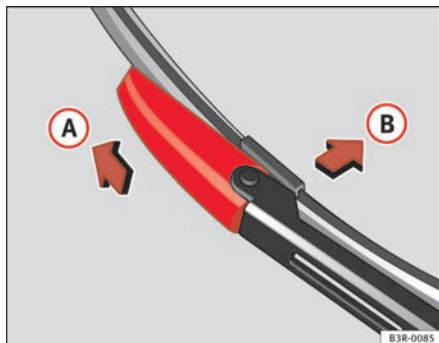

Fig. 169 Removing the wiper blade
- Slide the retainer catch on the wiper blade in the direction indicated ⇒ fig. 169 **A**. Hold onto the wiper blade at the same time.